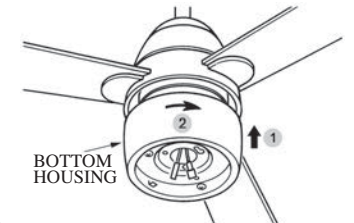

FIG. 13
2. Place the bottom housing and twist the bottom housing to tighten. (see Fig.13)